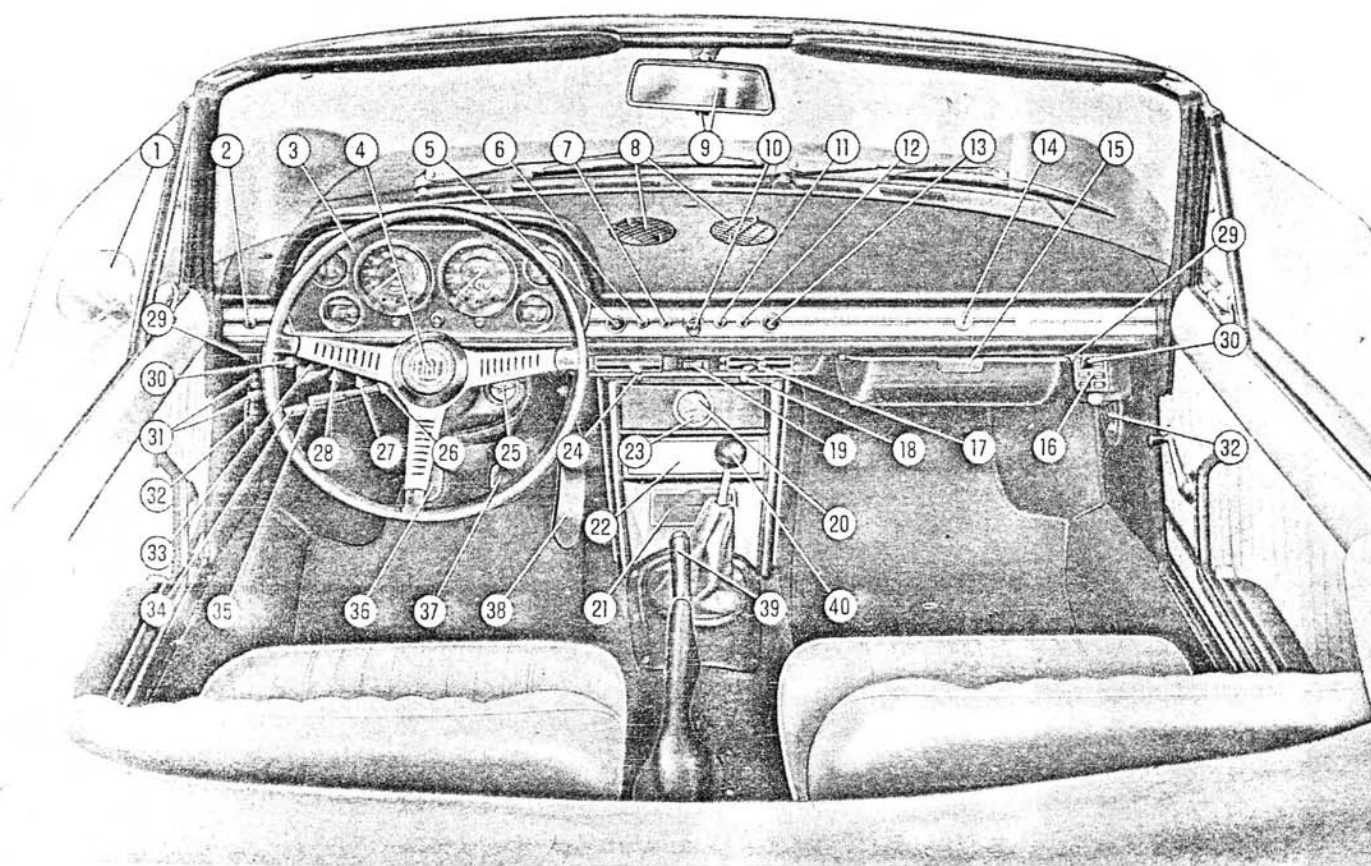

Fig. 135. - Instruments and controls.
Fresh air may be admitted to the front passenger compartment through the side adjustable diffusers (32, fig. 135) as well. Pull levers (30) to open these air intakes.